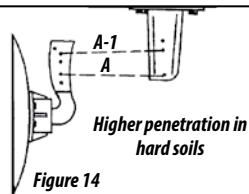

Figure 14
- 06 - Discs in the high position, as Figures 14 and 15, suitable for hard soil
- **NOTE: The plow is factory set at position A, A1, figure 14.**